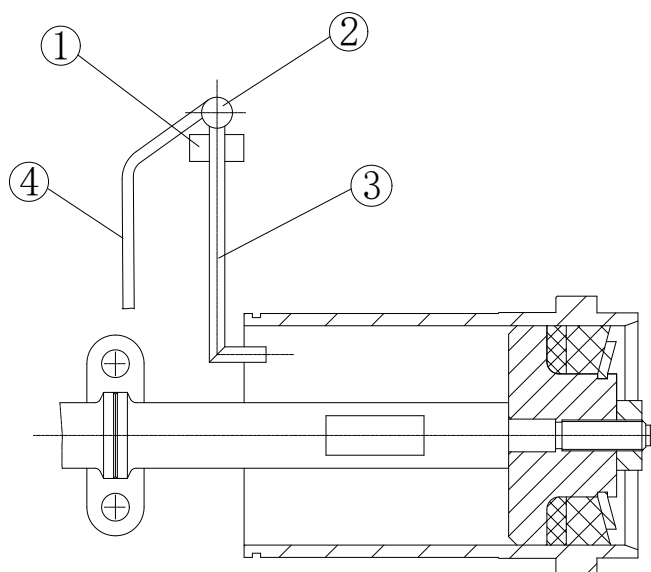

Fig. 5
Stationary spray type have been used on RLF-series pumps Ref. Fig 5. It consists of a fixture (1), a pipe (2) and a spray nozzle (3), which applies cooling fluid in the form of a spray to the piston and liner area. Adjust cooling water supply to the manifold so that a spray approximately 305mm long is being discharged from each spray nozzle. Inspect spray nozzle operation very often making sure the nozzle is pointed directly at the piston.